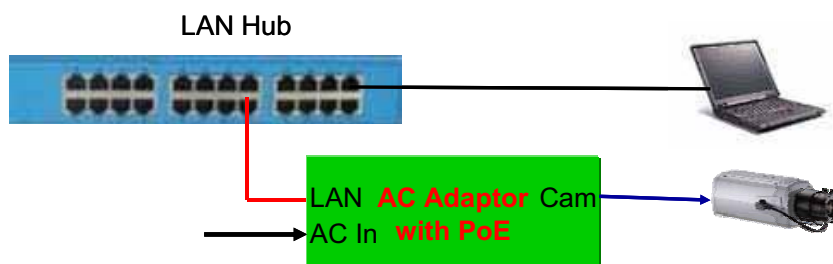

Figure 2-6. Connecting Network camera and PC using PoE Adaptor
2) If you have power adaptor with PoE, connect the network camera and PC as illustrated in Figure 2.6. Both power and network connection is made with a single LAN cable.